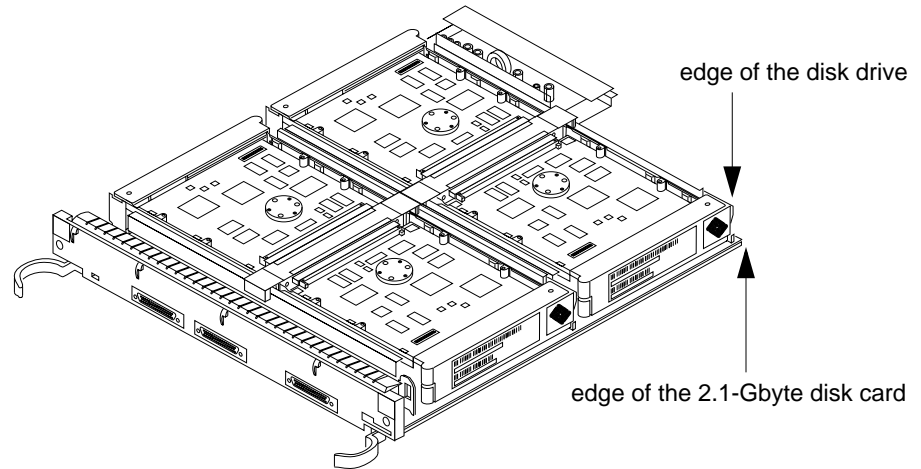

Figure 2-2 2.1-Gbyte Disk Card
6. Check that the ejector drive retainers on all four disk drives are closed and do not extend past the edge of the board. Refer to Figure 2-2.